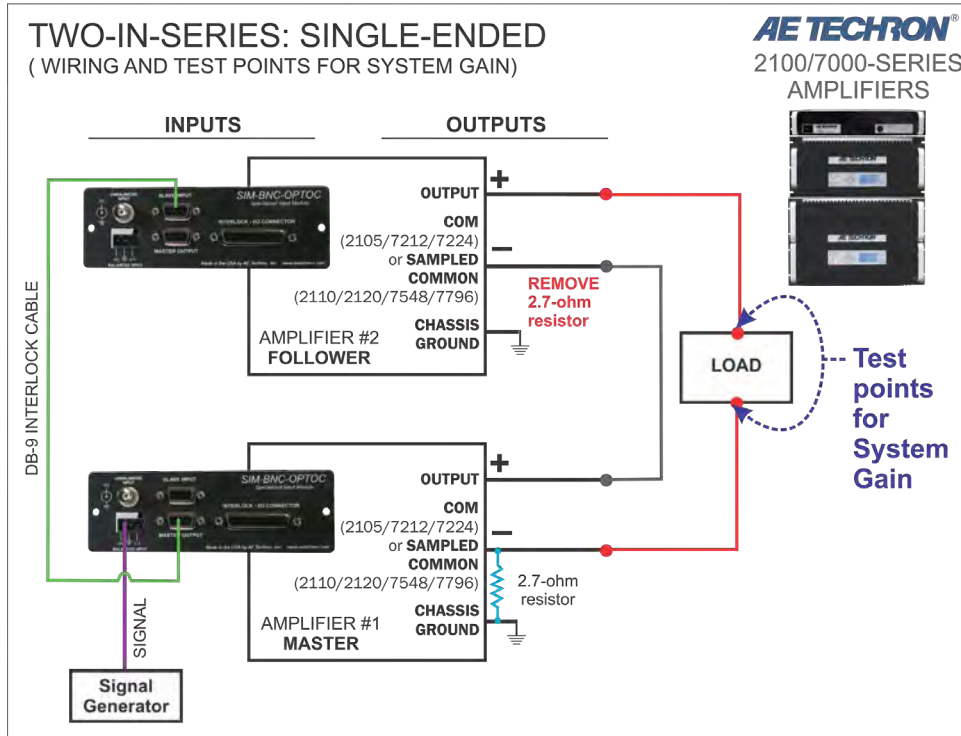

Figure 3.17 – Verifying System Gain
4. Apply a sine wave of 5Vrms at 100 Hz at the Master amplifier input. Using a voltmeter, measure across the system load to verify an output from the system of approximately 200Vrms. See **Figure 3.17**.